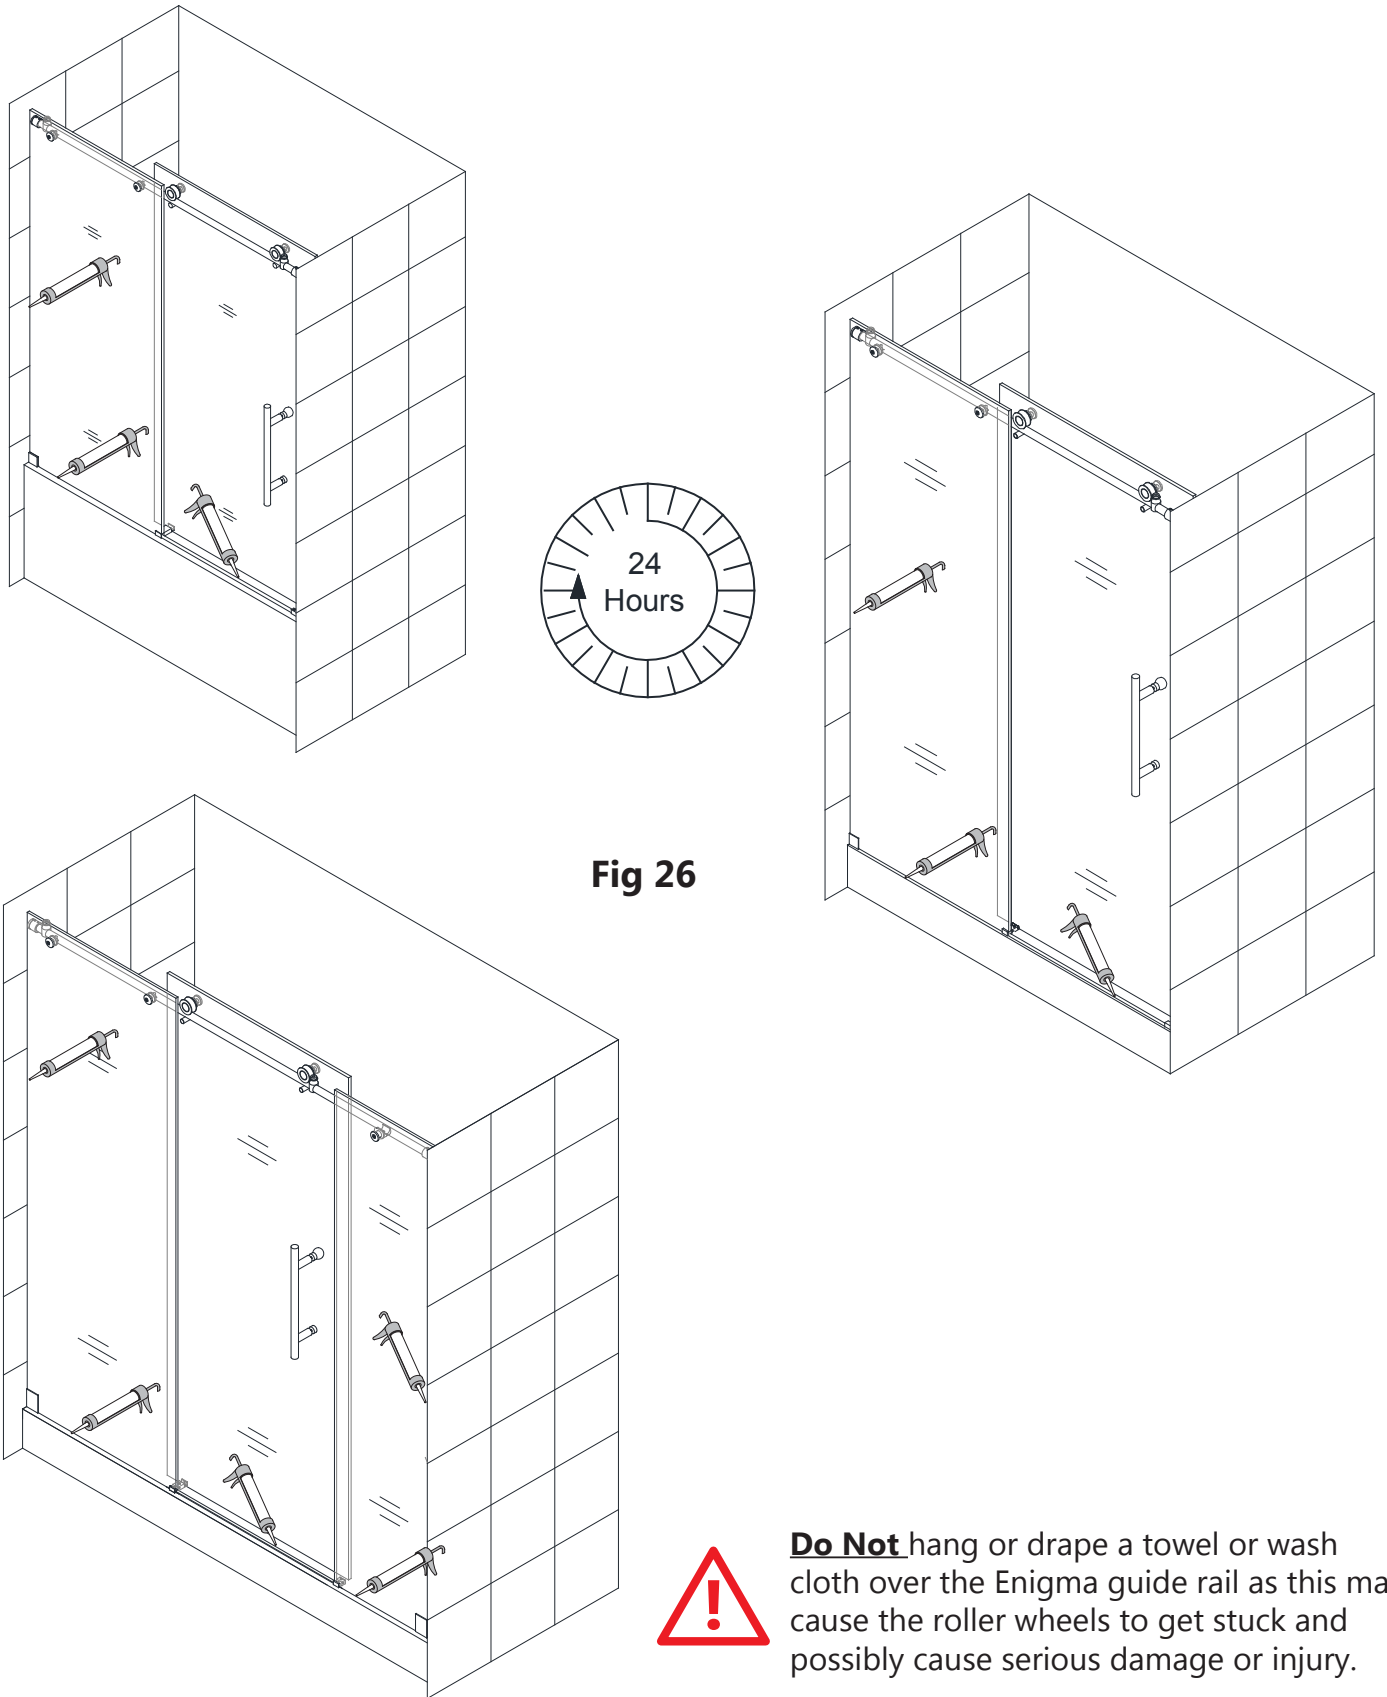

Fig 26
26. Apply a good quality mildew-resistant silicone along the interior perimeter where the glass meets the wall and threshold and also along the **Anti-Splash Guard (#15)**. (**Fig 26**)